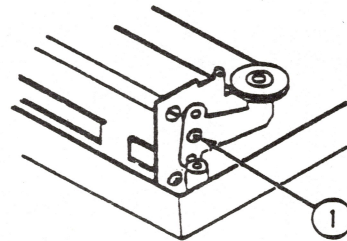

FIGURE 12
14. Tighten the tension screw until the wire is taut (see Figure 12, #1).